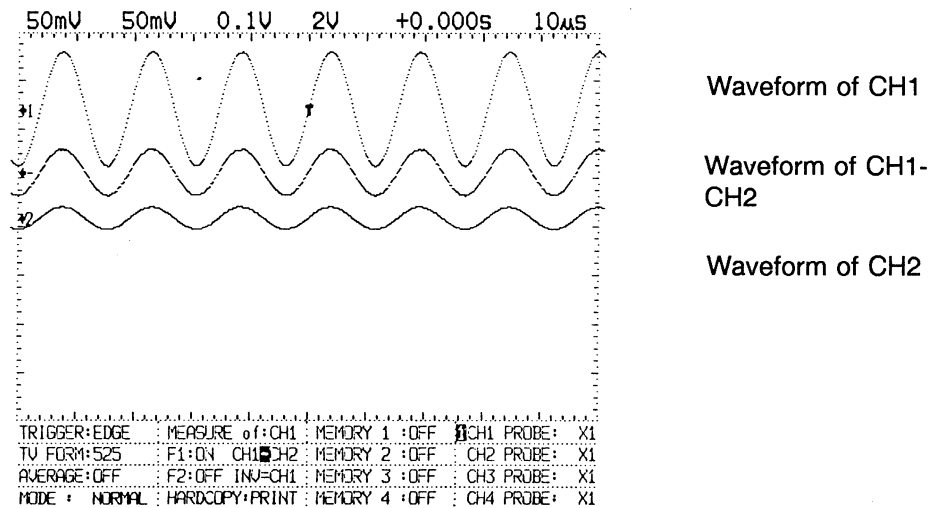

Fig. 6-31 Example of CH1-CH2 selected by operation 1 (F1)
(4) Display of subtracted waveform (-)
- An example of the CH1 input waveform minus CH2 input waveform is shown in Fig 6-31.